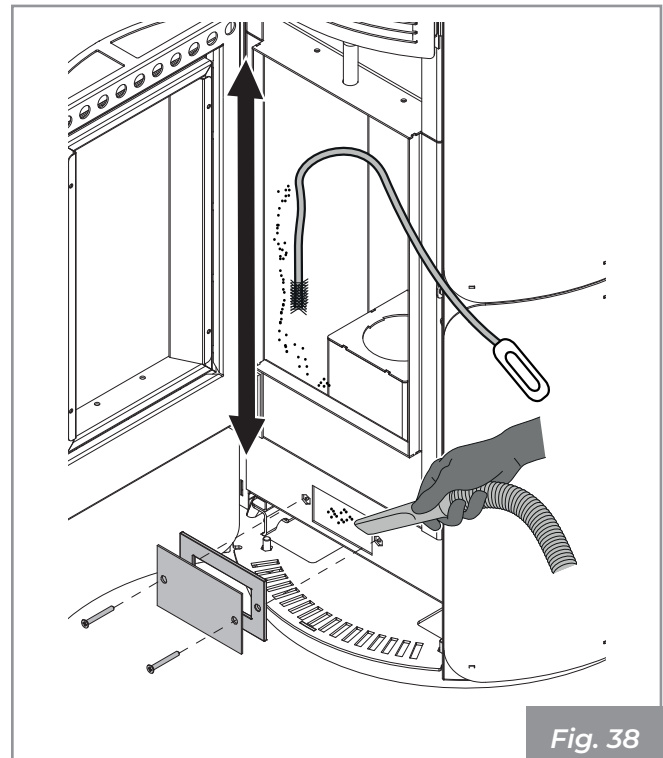

Fig. 38
- Remove any residues that fall into the exhaust compartment with the aid of an ash vacuum cleaner (**fig. 38**).